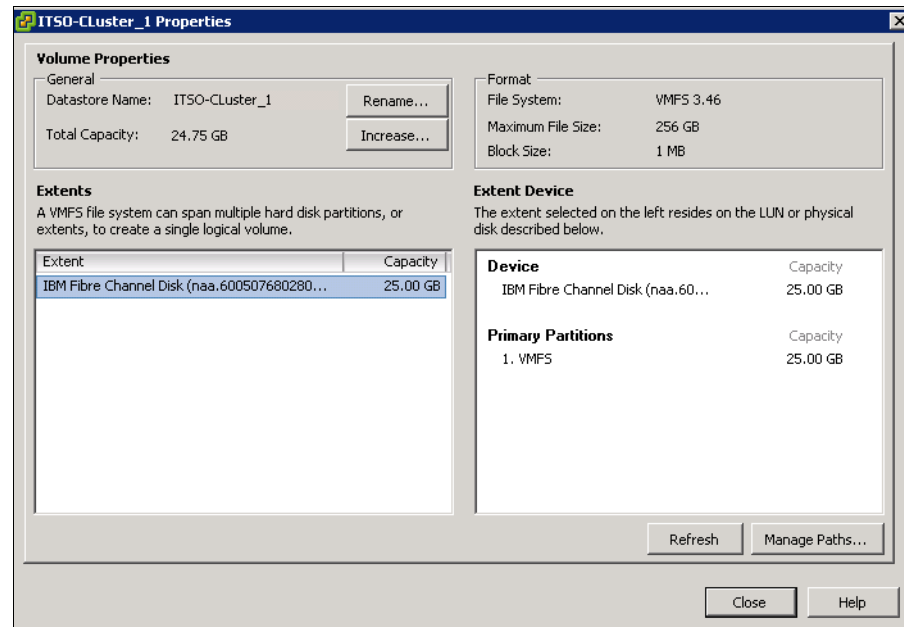

Figure 5-51 Data store properties
- Highlight the new data store and click **Properties** to see the details of it (Figure 5-51).